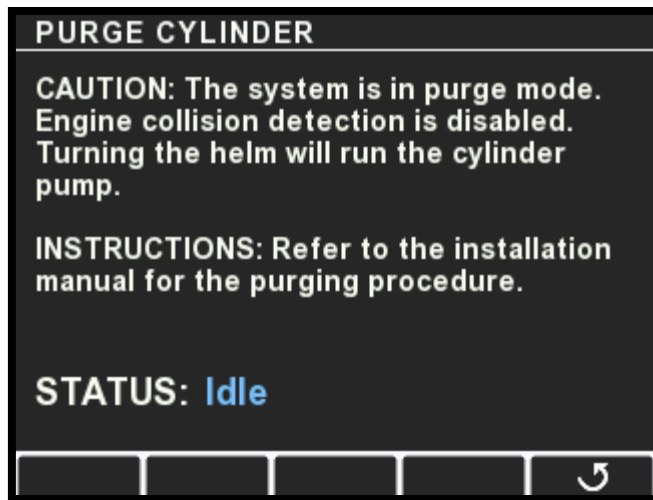

Figure 5-5.
8. Select the cylinder to purge and press > to enter Purge Mode. If you don't see the Purge Cylinder screen as shown in figure 5-5, cycle the system power and try again. The system will not enter Purge Mode if the helm has been turned since the ignition was turned on.